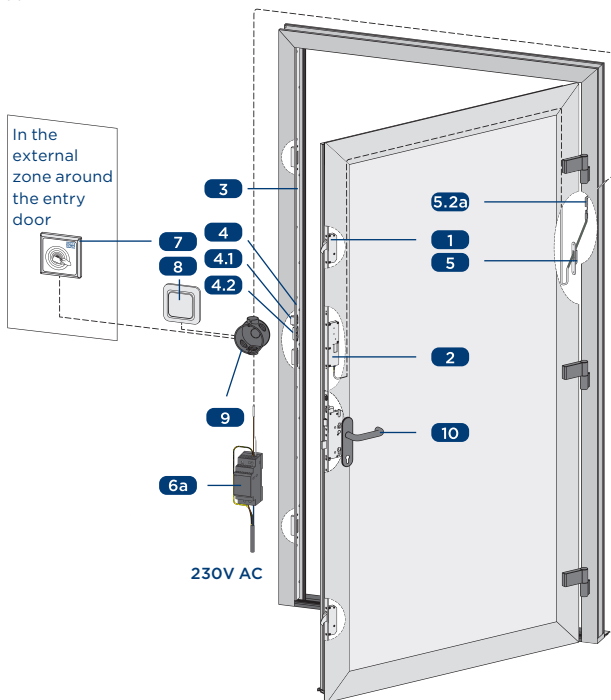

Figure 2-1: blueMatic EAV with accessories and external power supply
5.2a	Figure 2-1: T-KÜ-T1 RT KABEL 4M including cable 4 m for connection of external access controls, e.g. inter- com, potential-free contact
6a	Figure 2-1: Power supply T-HT NETZTEIL 12V DC / 2A mounting on DIN rail